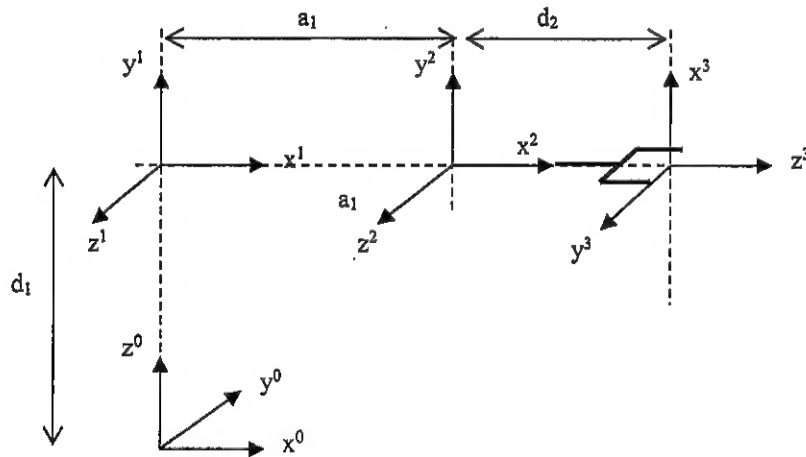

Fig.Q3
- (c) Consider the link-coordinate diagram of a 3-axis articulated robot as shown in Fig.Q3. The arm matrix for this robot is given by: